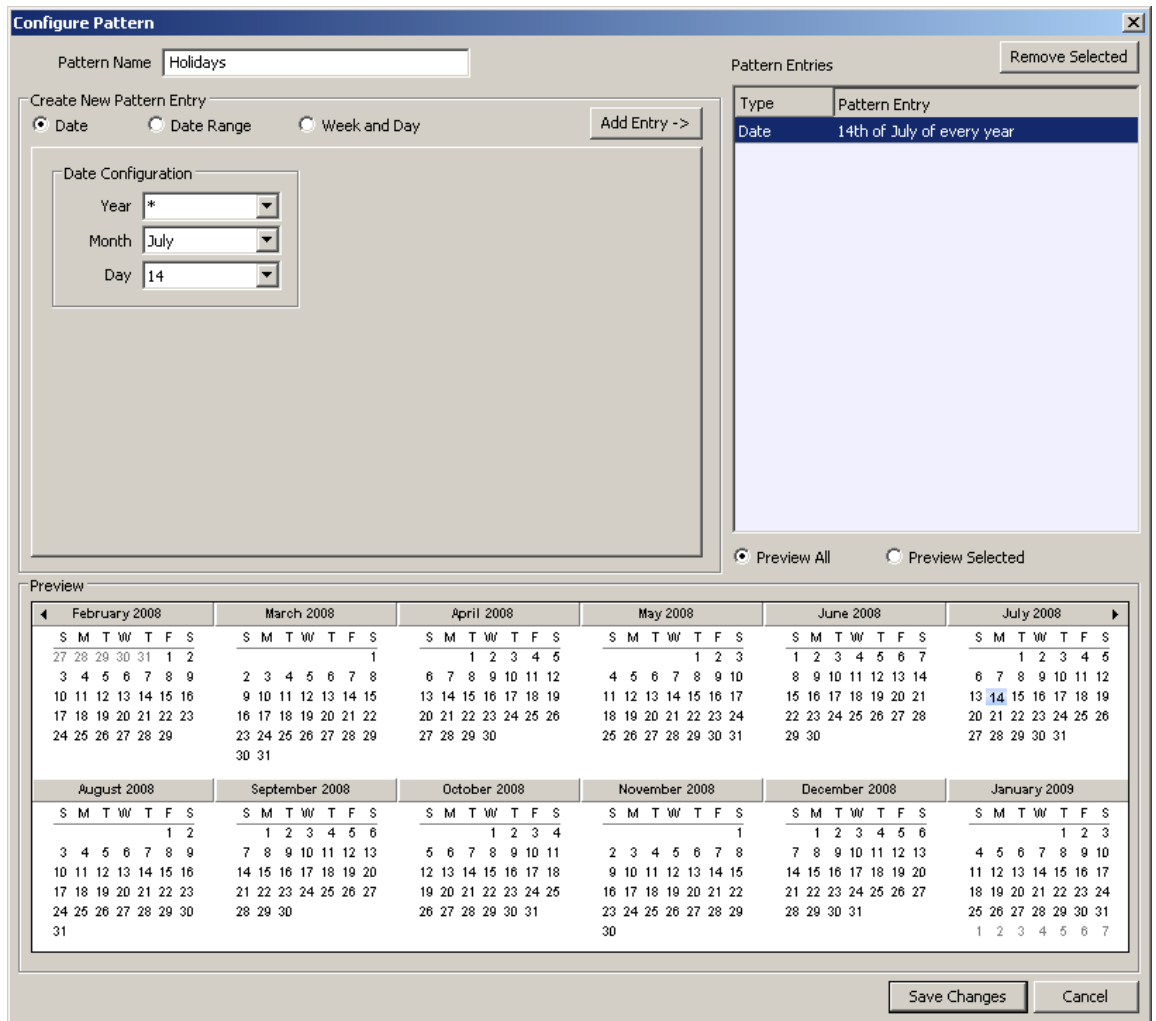

Figure 114: Configure Calendar Pattern Dialog.
4. The Configure Pattern dialog appears as shown in Figure 114. Add dates to the calendar pattern by entering a Date Configuration. Then click Add Entry. The date appears in the Pattern Entries list on the right-hand side.